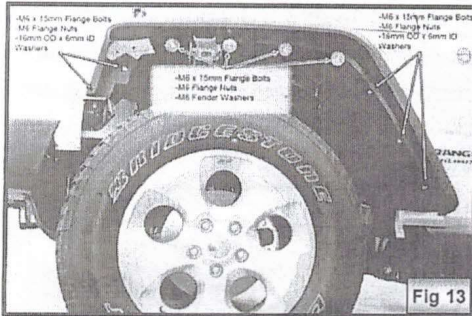

Fig 13
17. Fix the flare in the following way: 4 M6 x 15 mm flange bolts, 4 M6 flange nuts and 4 M6 fender washers are attached to the top of the flare. The front and rear parts of the flare are equipped with (5) M6 x 15 mm flange bolts, (5) M6 flange nuts and (5) 16 mm OD x 6 mm ID flat gaskets (Fig. 13). Tighten all fasteners at this time.